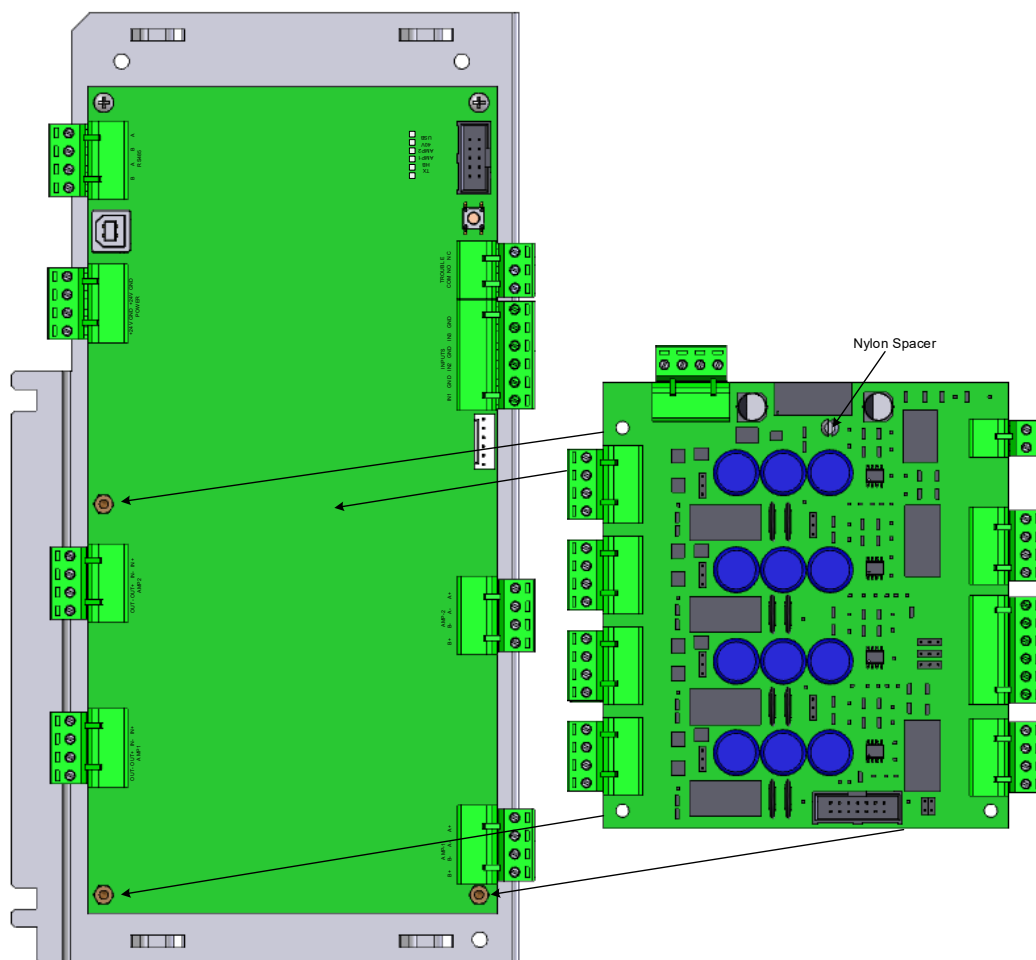

Figure 56 - NX10-ZS Module Installation
1. Remove the three (3) bottom panhead screws securing the NX10-AMP-80 audio amplifier module to its mounting plate and replace with the three (3) supplied metal hexagon spacers (Figure 56).
2. Install the supplied nylon standoff onto the upper-right screw hole (non-corner hole) of the zone splitter module with one of the supplied panhead screws (Figure 56).
3. Place the zone splitter module over the installed metal hexagon spacers and secure with three (3) panhead screws (Figure 56).